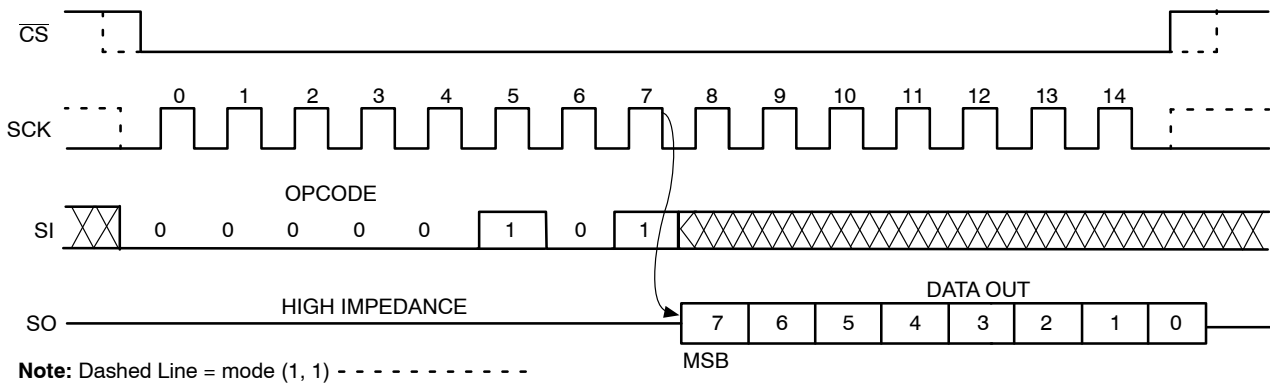

Figure 10. RDSR Timing
Reading the additional 256-byte Identification Page (IP) is achieved using the same Read command sequence as used for Read from main memory array (Figure 10). **The IPL bit from the Status Register must be set (IPL = 1) before attempting to read from the IP.** The [A7:A0] are the address significant bits that point to the data byte shifted out on the SO pin. If the $\overline{\text{CS}}$ continues to be held low, the internal address register defined by [A7:A0] bits is automatically incremented and the next data byte from the IP is shifted out. The byte address must not exceed the 256-byte page boundary.
To read the status register, the host simply sends a RDSR command. After receiving the last bit of the command, the CAT25M02 will shift out the contents of the status register on the SO pin (Figure 10). The status register may be read at any time, including during an internal write cycle.